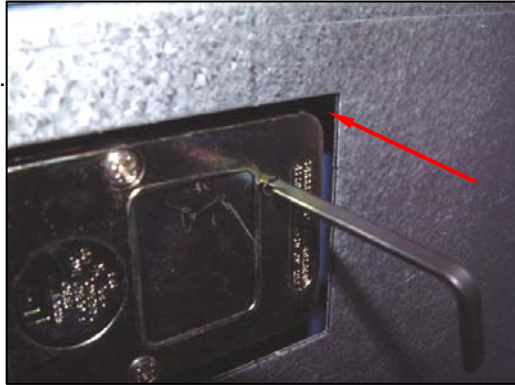
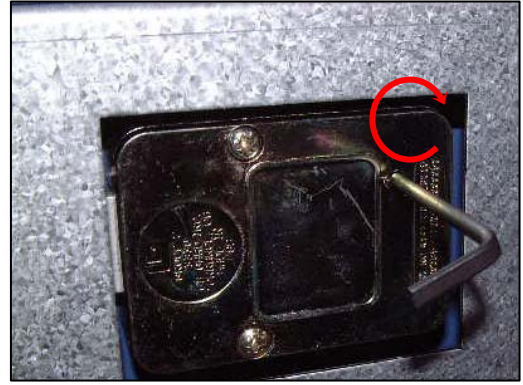

Fig.4
Fig.5
6. Push the change bar completely until it is held by the dial change home (Fig.4) inside the safe door and turn to the clockwise by 90 degrees (Fig.5).